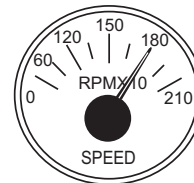

Figure 64. Engine Tachometer
10. The **engine tachometer** (Figure 64) indicates the speed of the engine while the generator is operating. Under normal operating conditions, this gauge should indicate approximately 1,000 rpm when the **engine speed switch** is in the **LOW** position, and 1,800 rpm when the engine speed switch is in the **HIGH** position.